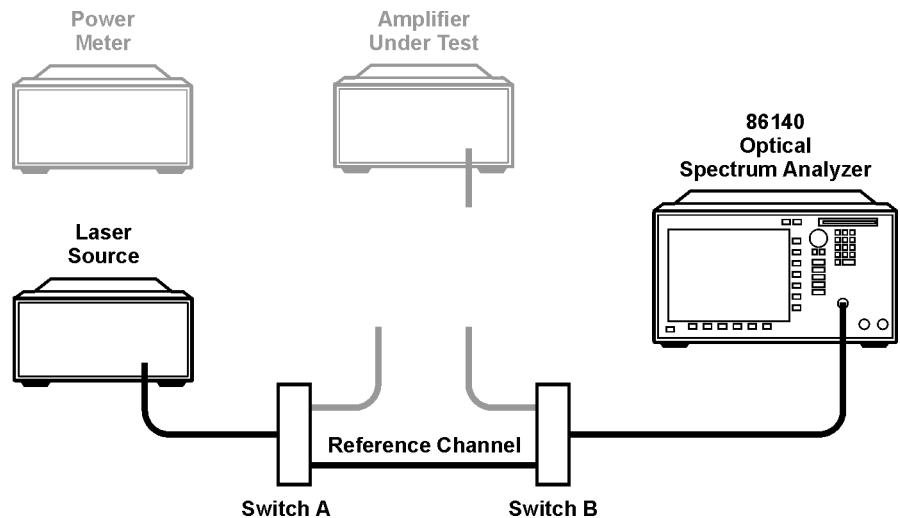

Figure 1-4. Source Path Measurement
- 1 Connect the equipment as in Figure 1-4. Set Switch A and Switch B to the reference channel position.